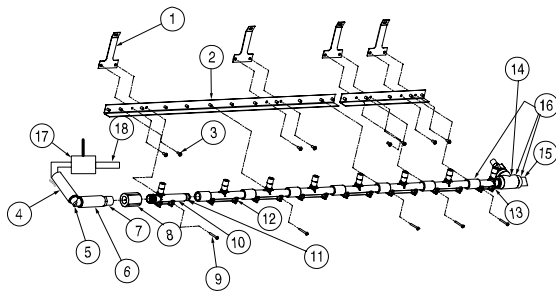

Figure 8.1. Flush Manifold, Peristaltic Pump Side
4. If using any auxiliary pump boxes, add extra manifold and support brackets as shown in Figure 8.1 to the right of #1 and #2. Attach two support brackets per aux box under the aux box's cover screws, and then one aux box manifold bracket per aux box under the support brackets.
6. Starting on the left side of the manifold, attach part #8 (threaded coupling-see Figure 8.1) between part #7 and part #10. This section should align with the first peristaltic pump on the main pump box.
7. Attach one manifold section (shown as part #12 in Figure 8.1) for all of the remaining peristaltic pumps, except for the last peristaltic pump. Fit the barb for each section up into the peristaltic pump tube extending down from the right side of the pump and hose clamp it into place. The last peristaltic pump will receive the part #13, which has a threaded section on the right side of the peristaltic pump manifold section.